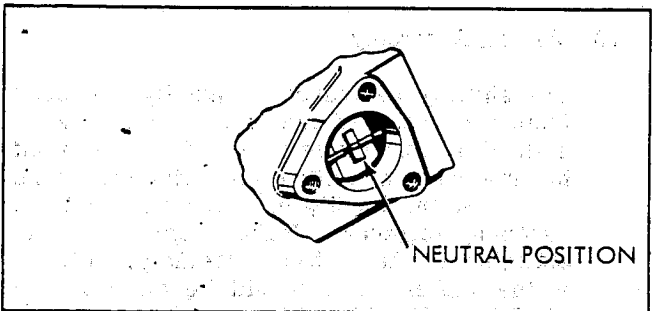

Figure 3-16
1. Clean the outside surface of the transaxle, away from the area where disassembly will take place. (Position shift lever in neutral position to help disassembly. See Figure 3-16.) Remove screws (3) holding shift lever opening (for service of shift lever assembly, refer to SECTION 10.) Remove all keys from keyways, remove all burrs and dirt from shafts. On hardened shafts, use a stone to remove burrs. All seals should be replaced whenever a shaft is pulled through a seal. Always use a new gasket whenever the gasket surfaces have been separated.